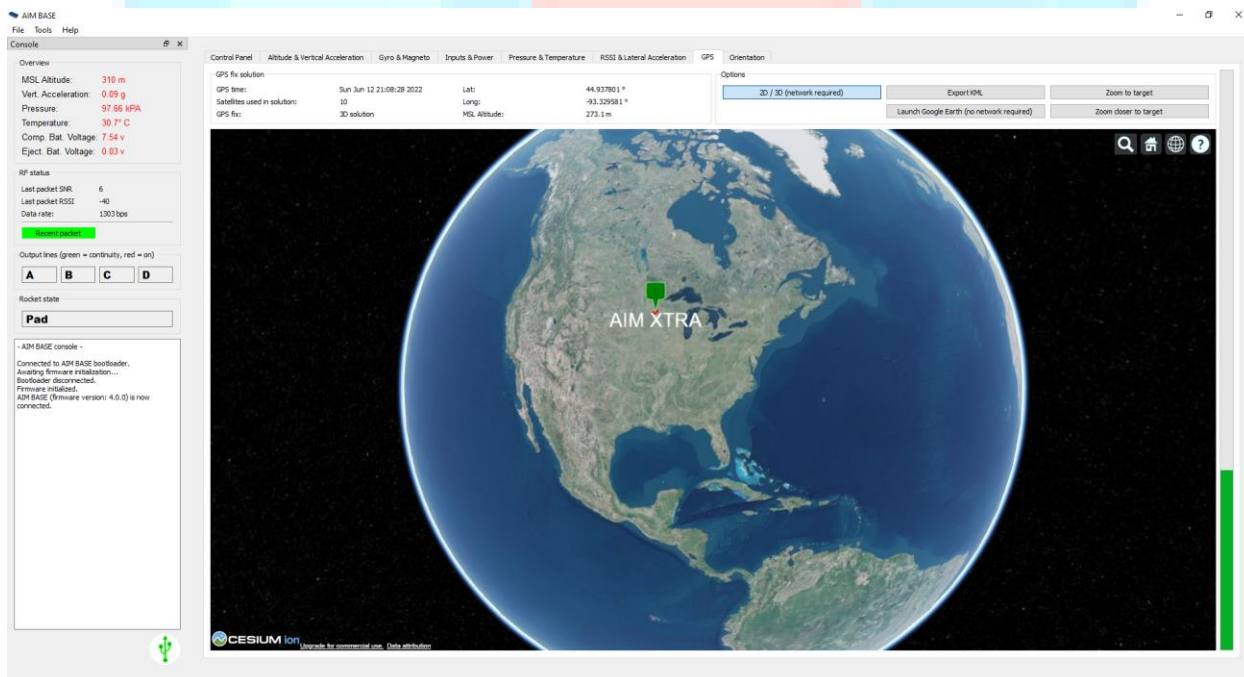
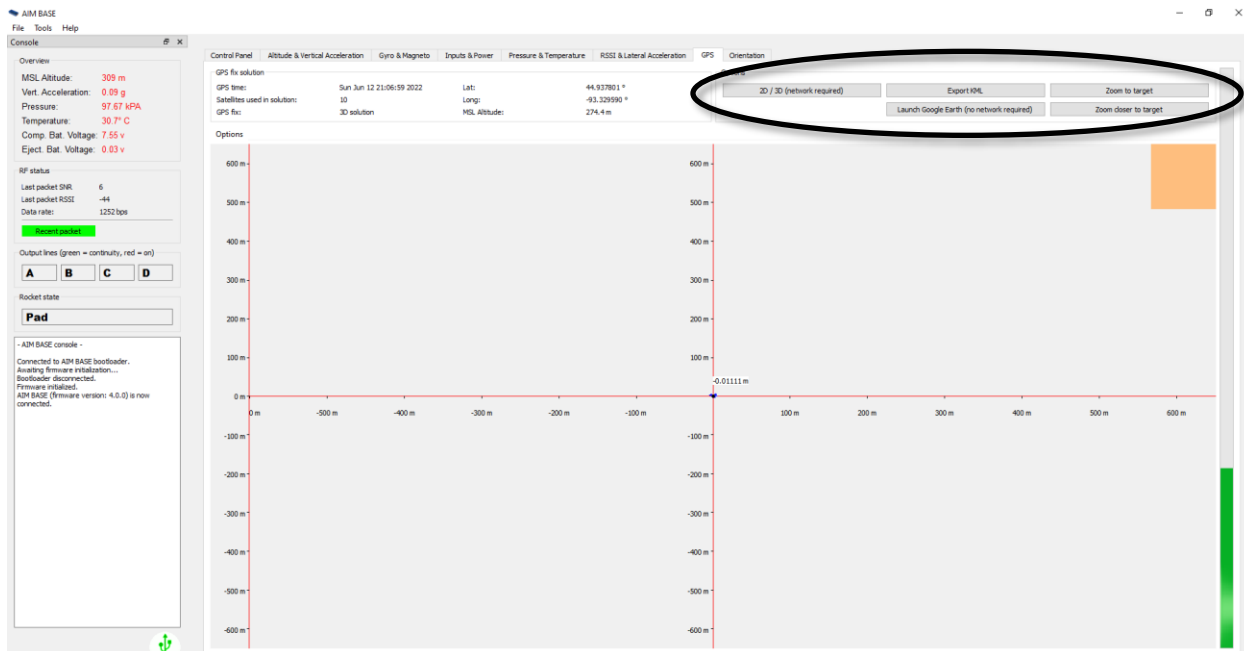

Figure 20 - AIM BASE GPS Tab using Cesium Ion
Figure 21 - AIM BASE GPS Tab using XY Graph
If you are using Cesium Ion online or offline you will see your location (Figure 20). Otherwise, an X/Y graph will appear with the X axis aligned with east and west while the Y axis will be aligned with north and south (Figure 21). Along the right side of the image is a vertical Green bar which
graphically depicts the quality of the GPS satellite locks. Finally, there is a set of Options buttons (circled in Figure 21):
- **2D / 3D** changes view to Cesium Ion (see Figure 20). Note an internet connection is required.